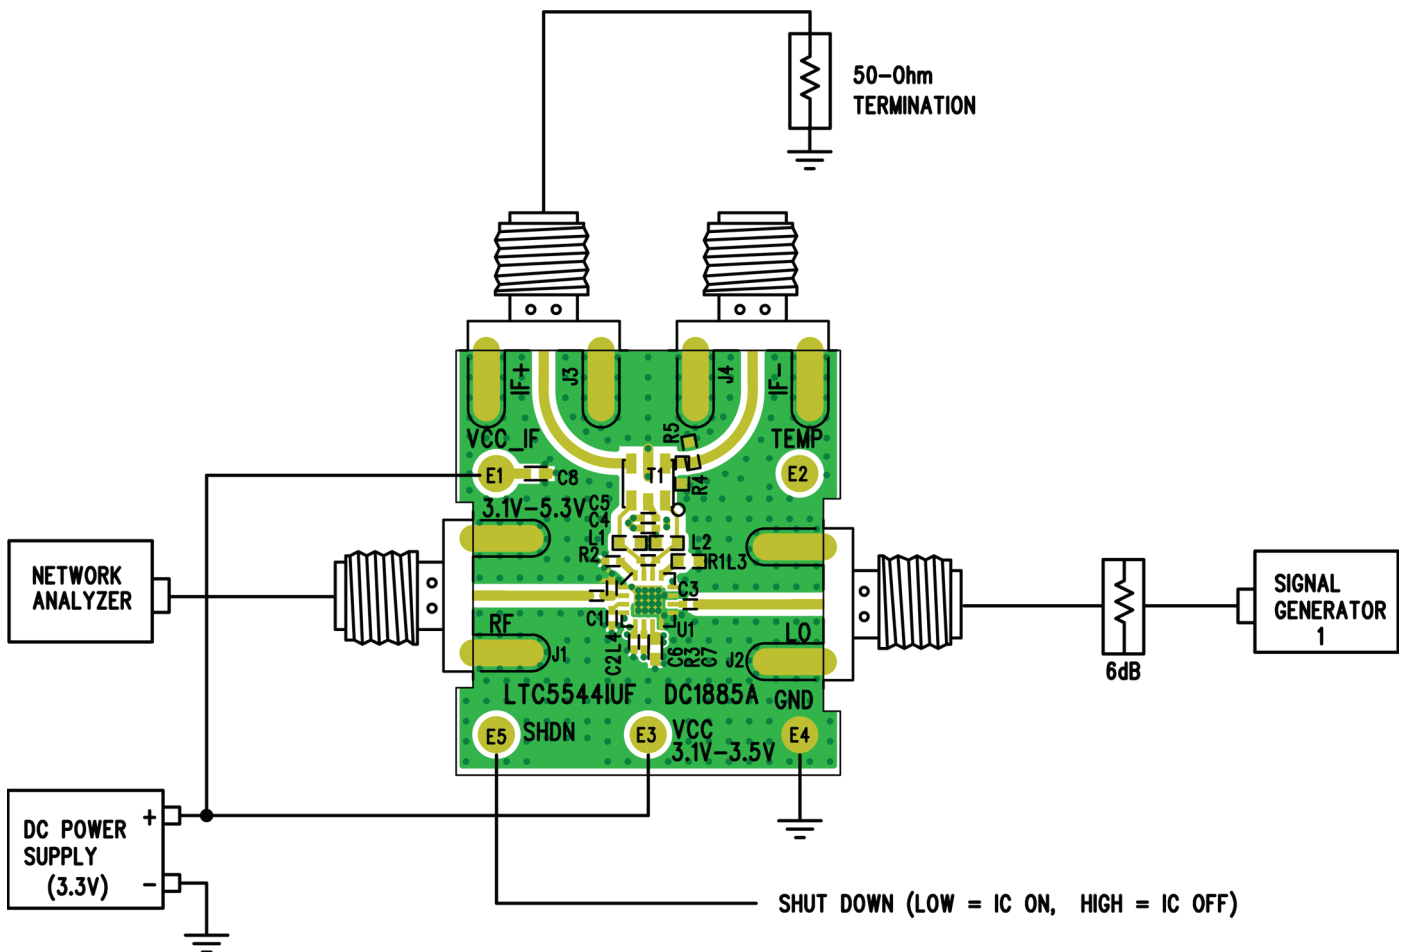
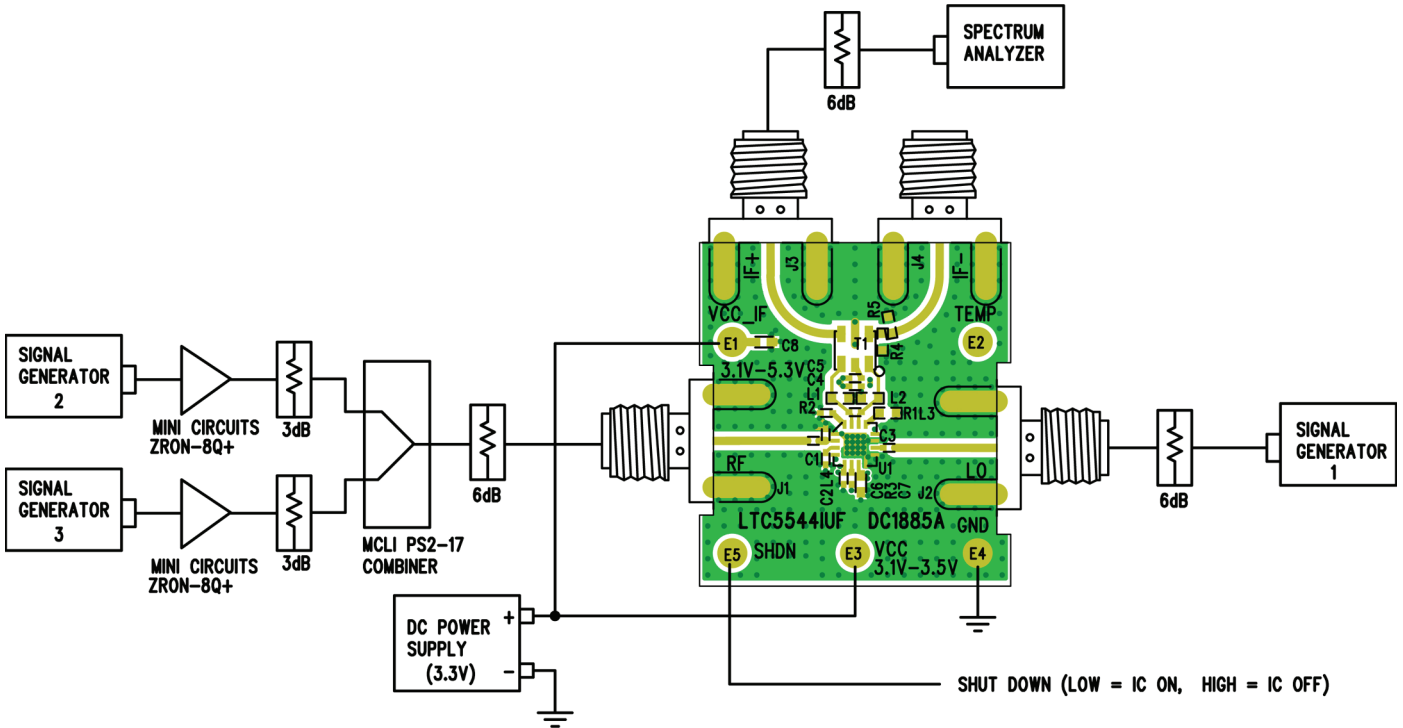

Figure 5. Proper Equipment Setup for Return Loss Measurements
Figure 6. Proper Equipment Setup for RF Performance Measurements
The LTC5544 is a high dynamic range downconverting mixer IC with very high input third order intercept. Accuracy of its performance measurement is highly dependent on equipment setup and measurement technique. The recommended measurement setups are presented in Figure 5, Figure 6 and Figure 7. The following precautions should be observed:
The LTC5544 consists of a high linearity passive double-balanced mixer core and IF buffer amplifier. Due to the bidirectional nature of all passive mixers,  $LO\pm IF$  mixing product is always present at the RF input, typically at a level of 12dB below the RF input signal. If the  $LO\pm IF$  "Pseudo-Image Spur" is not properly terminated, it may interfere with the source signals, and can degrade the measured linearity and noise figure significantly. To avoid interference from the  $LO\pm IF$  "Pseudo-Image Spur", terminate the RF input port with an isolator, diplexer, or attenuator. In the recommended measurement setups presented in Figure 6 and Figure 7, the 6dB attenuator pad at the demonstration circuit's RF input serves this purpose.
Demonstration circuit 1885A is easy to set up to evaluate the performance of the LTC5544. Refer to Figure 5, Figure 6 and Figure 7 for proper equipment connections and follow the procedure below:
3. Connect all test equipment as shown in Figure 5 with the signal generator and the DC power supply turned off.
1. Connect all test equipment as shown in Figure 6 with the signal generators and the DC power supply turned off.